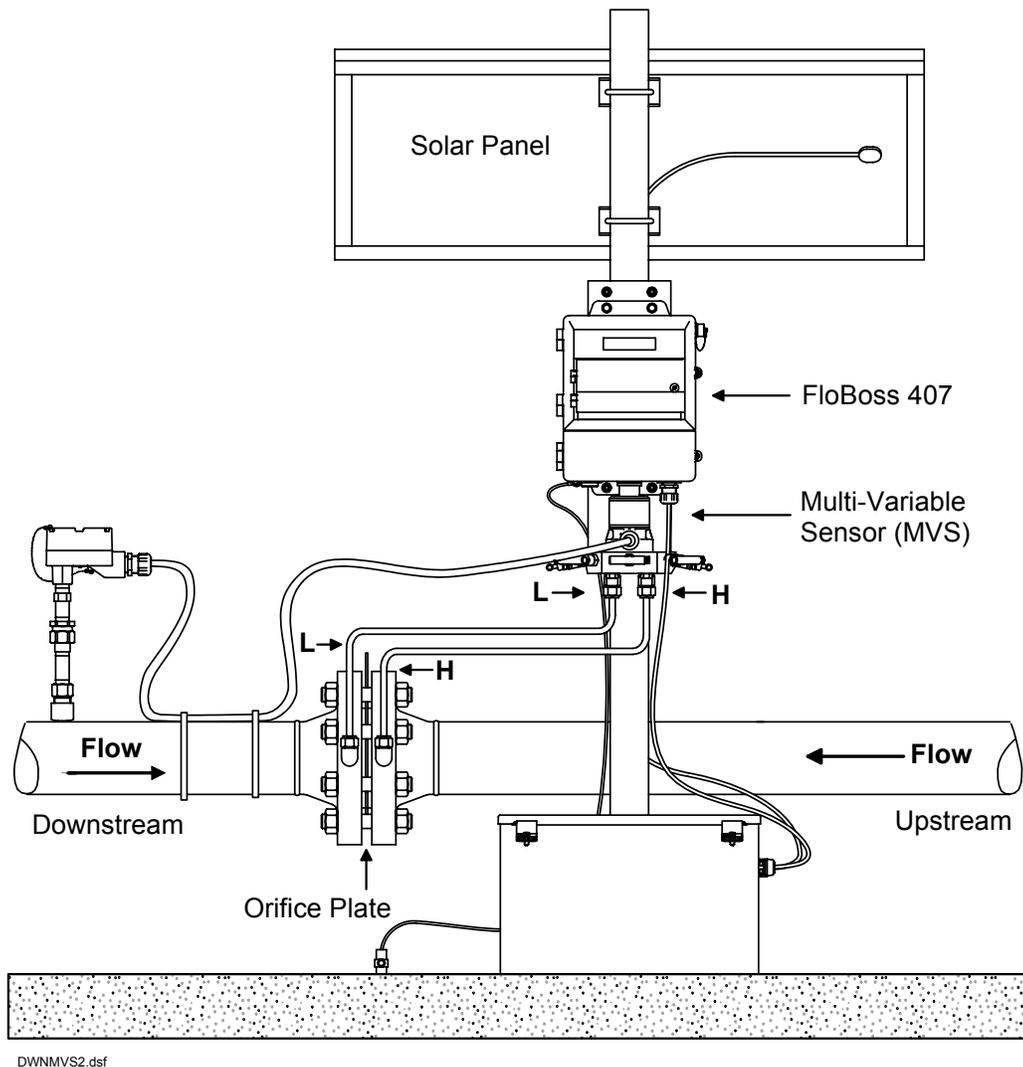

Figure 6-10. MVS Interface (Version 1.04 or greater) for Bi-Directional Process Connections
To use the FloBoss 407 or ROC300-series with a FlashPAC as a bi-directional flow device, connect the upstream process connections to the high (H) pressure side and the downstream process connections to the low (L) pressure side. Refer to Figure 6-10. You must configure two meter runs in the ROC/FloBoss to archive bi-directional flow.
- ❖ **NOTE:** Mount the Resistance Temperature Detector (RTD) probe downstream from the low (L) pressure side. However, be aware that this may create RTD thermowell interference when flowing in the reverse direction.